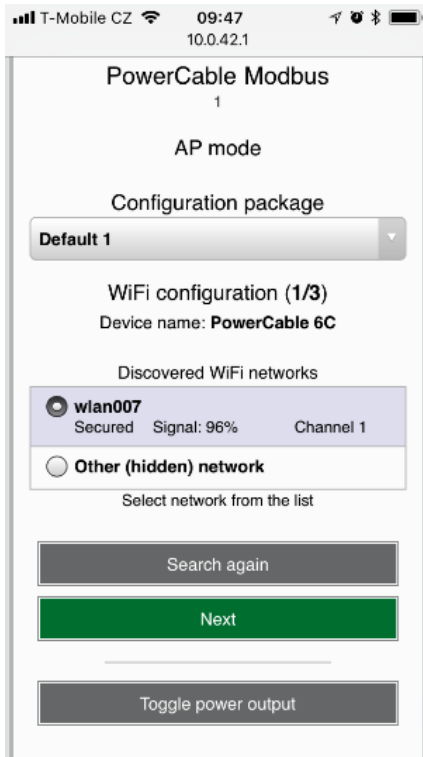

Figure 14 -Network selection in AP mode
- Select your network in the list of detected networks and click “Next” (Figure 14).